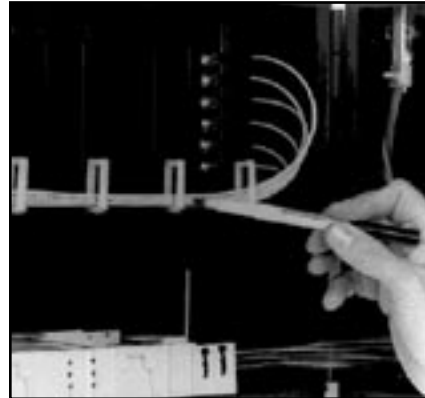

FIGURE 8 - MARKING PIGTAILS
5.05 Mark the jacket of each of the pigtails at a point about 2" (51 mm) beyond the bending radius as shown in Figure 8.